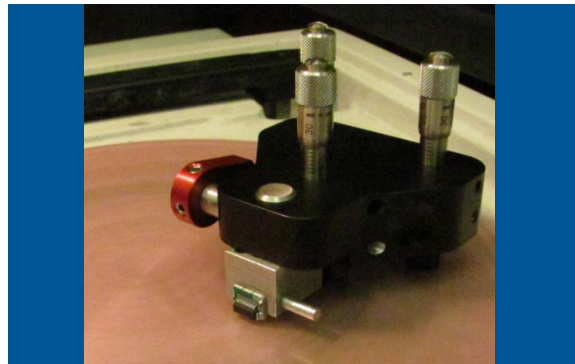

Figure 3. Sample mounted on a cross-sectioning paddle and then on a hand-held, tripod-type polisher.
- **Polishing with the hand-held, tripod-type polisher.** Mount the cross-sectioning paddle to a hand-held, tripod-type polisher, such as the Allied TEM Wedge Polisher (Figure 3).